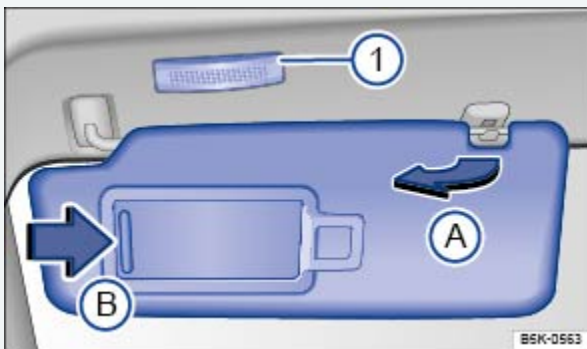

Fig. 88 In the headliner: Sun visor.
- Lift it out of the retaining clip ⇒ Fig. 88Ⓐ and swivel it over toward the door.
A vanity mirror is behind a cover in the sun visor. Your vehicle may also be equipped with a light ⇒ Fig. 88Ⓛ that comes on when you slide the cover Ⓜ open.